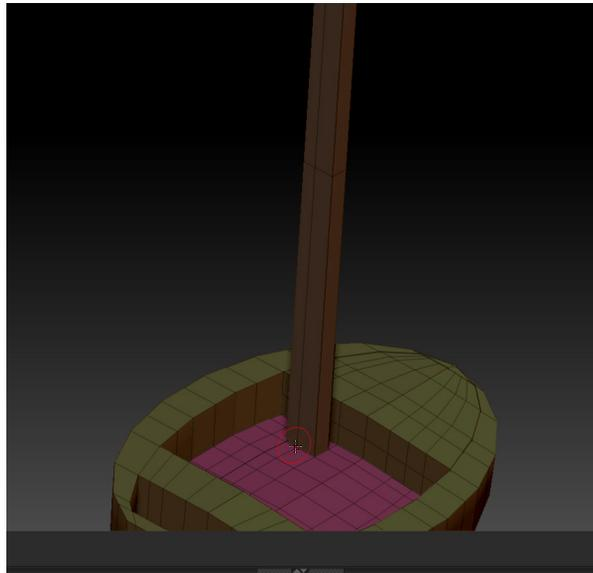
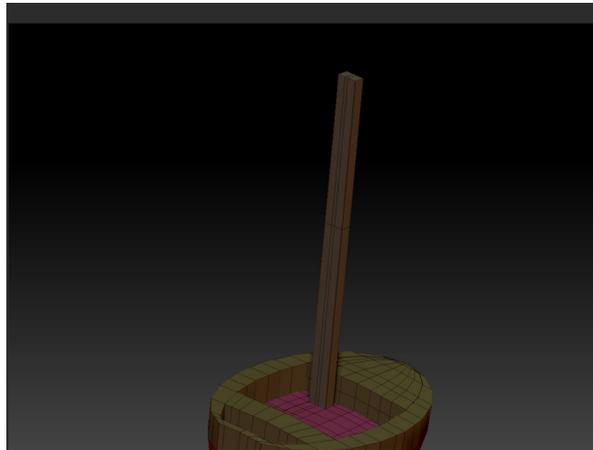

Figure 3-124 The edge loop added
Figure 3-125 Added edge loops
1. Hover the cursor on the edge and click; the edge loop is added, as shown in Figure 3-124. Similarly add more edges, as shown in Figure 3-125.